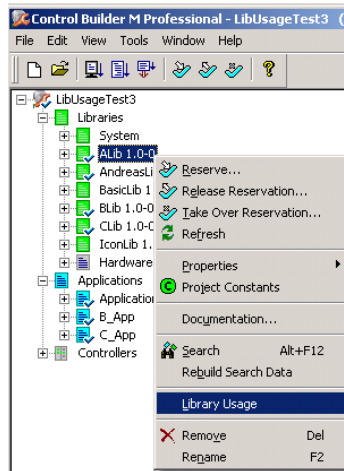

Figure 55. Library Usage
1. Right-click the library and select Library Usage as in Figure 55 . The Library Usage dialog is displayed with list of applications where the library is connected.